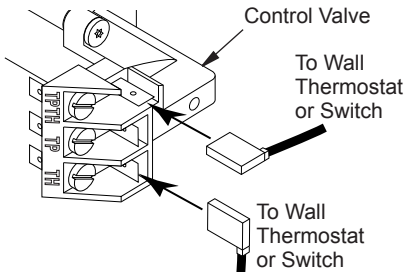

Figure 32 - Connecting Wire Terminals
2. Connect one terminal of 25 ft. wire to the "TH" terminal on the control valve. Connect the other terminal to the "THTP" terminal on the control valve. See Figure 32, page 20.
2. Connect one terminal of 25 ft. wire to the “TH” terminal on the control valve. Connect the other terminal to the “THTP” terminal on the control valve. See Figure 32.